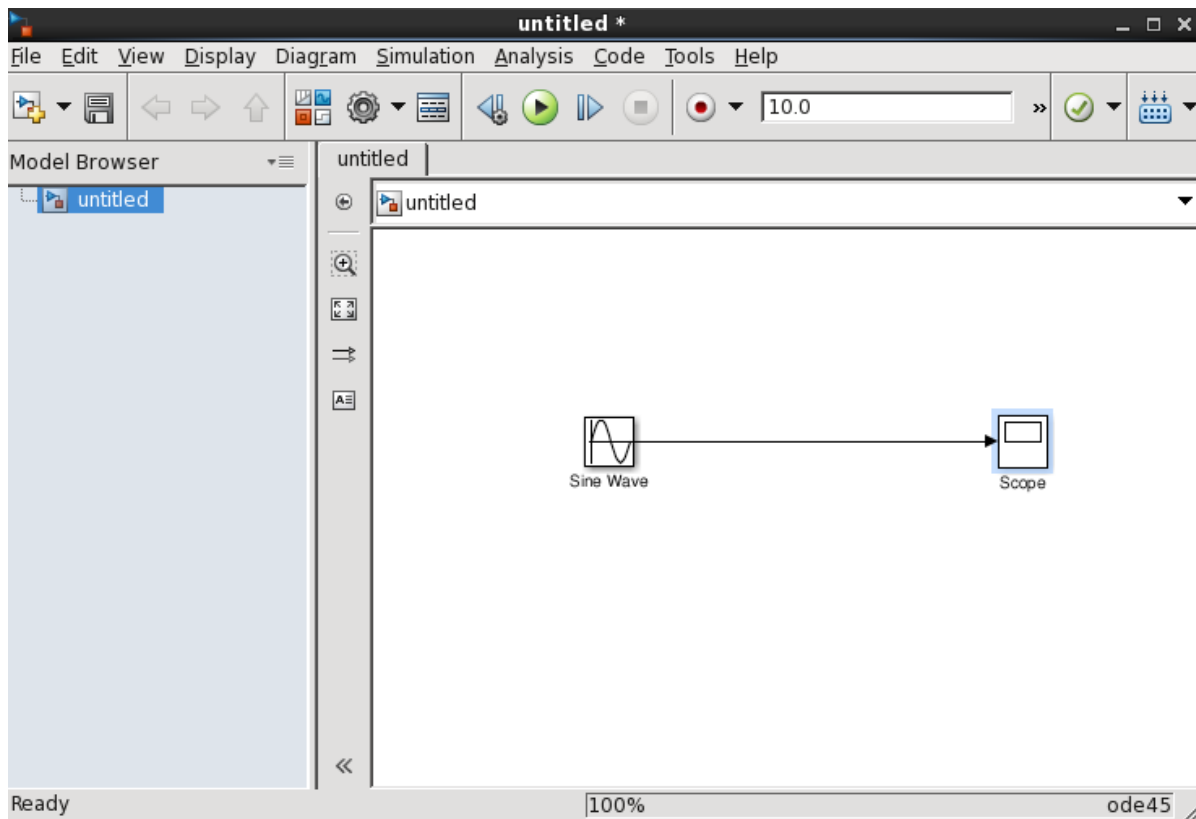

Figure 6: Sine source connected to Scope sink with a wire.
5. To connect the Sine wave source block to the Scope sink block, move the mouse cursor to the output port of the Sine block (the cursor will turn to a cross hair once it is over the port) , left click the mouse and drag it to the input port of the Scope block and left click. A wire will be drawn connecting the two blocks as shown in Figure 6.